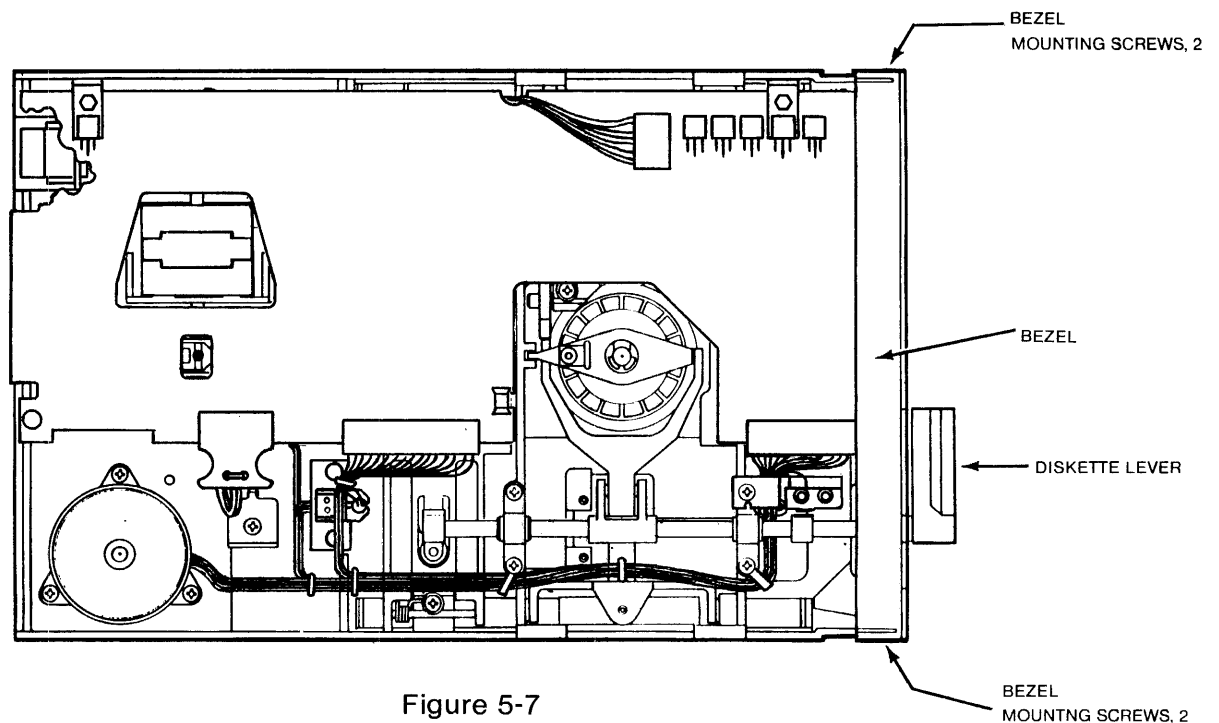

Figure 5-7
- A. Ensure that the diskette lever is perpendicular to the drive when the diskette is clamped. See Figure 5-7 for the adjustment.
- B. Ensure that the diskette lever is parallel to the drive when the diskette is unclamped. See Figure 5-7 for the adjustment.